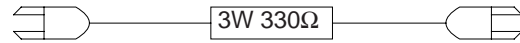

Fig. 2
1. Short-circuit the cathode side of D927 and the GND of the DECK ASSY using the jig shown in Fig. 2.
Note2: Short-circuit the Shield Plate and the cathode side of D927 using the jig shown in Fig. 2 before attaching the DECK ASSY.